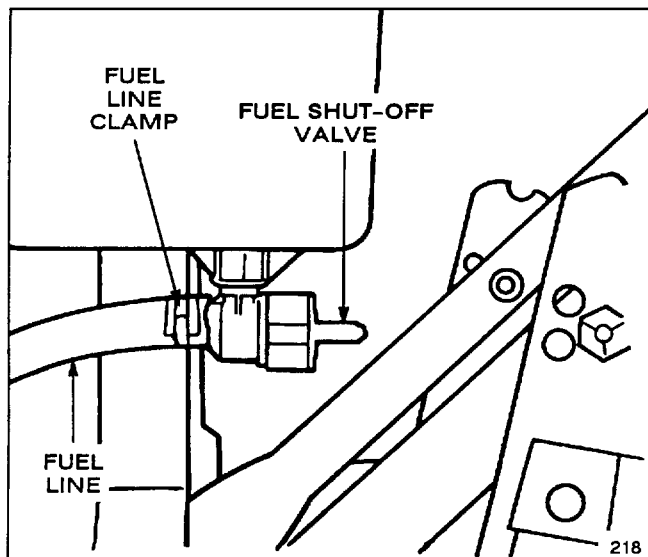

Figure 3
4. Slide end of fuel line onto fuel shut-off valve fitting. Secure in place with fuel line clamp (Fig. 3).